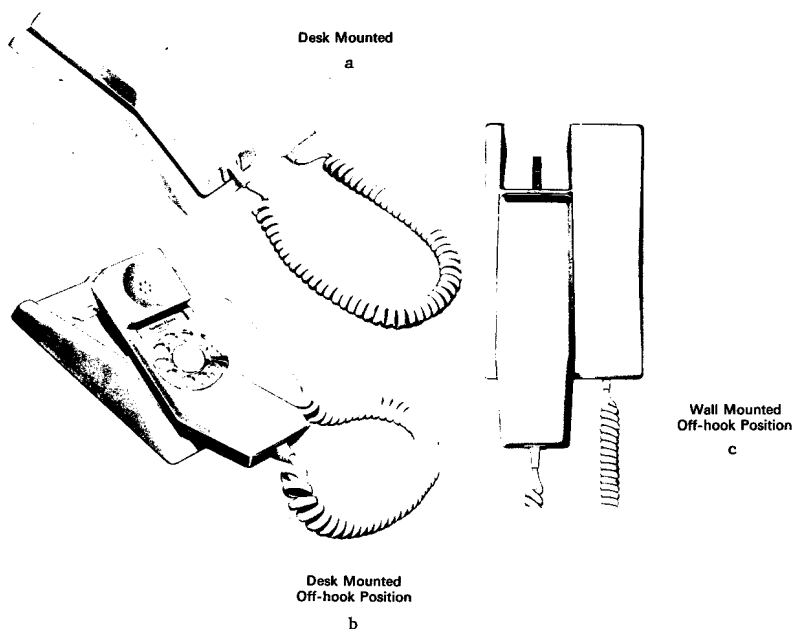

FIGURE 1
2.01 The Contempra Set is a dial-in handset telephone which may be used as a desk or wall set. See Figure 1-a, b, and c.